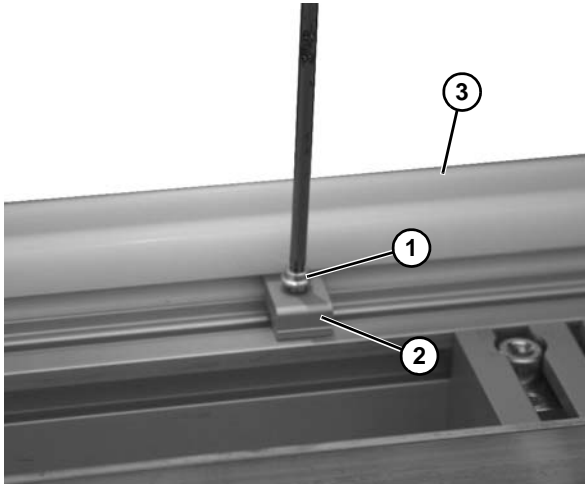

Figure 42
1. Using T20 torx tool, remove torx screws (Figure 42, item 1) and clamps (Figure 42, item 2) holding outer top wear strip (Figure 42, item 3) to frame.